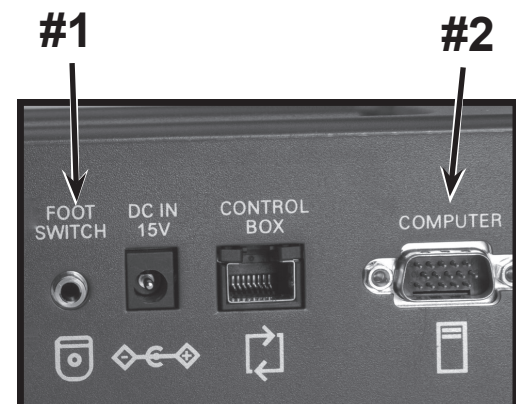

Figure 3
1. Connect the optional Foot Switch cable into the jack labeled “Foot Switch” on the back of Merlin LCD (see *Figure 3*, #1).
2. Connect the female end of the optional VGA extension cable into the port labeled “COMPUTER” on the back of your Merlin LCD (see *Figure 3*, #2).